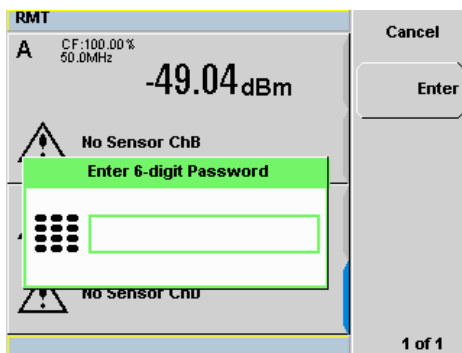
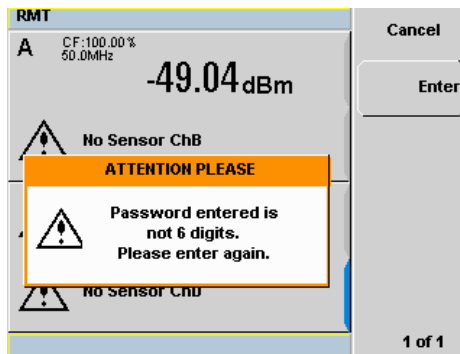

Figure 2-43 Enter 6-digit Password pop-up
Figure 2-45 Warning message
- 3 Press **Secure Blank**. The Enter 6-digit Password pop-up is displayed. You are to enter a 6-digit password upon activating the secure blank feature (see Figure 2-43).
- 5 A warning message pop-up will be displayed if the entered password is not 6-digits (see Figure 2-45). This warning will appear for two seconds before the enter password pop-up (Figure 2-43) is displayed again.